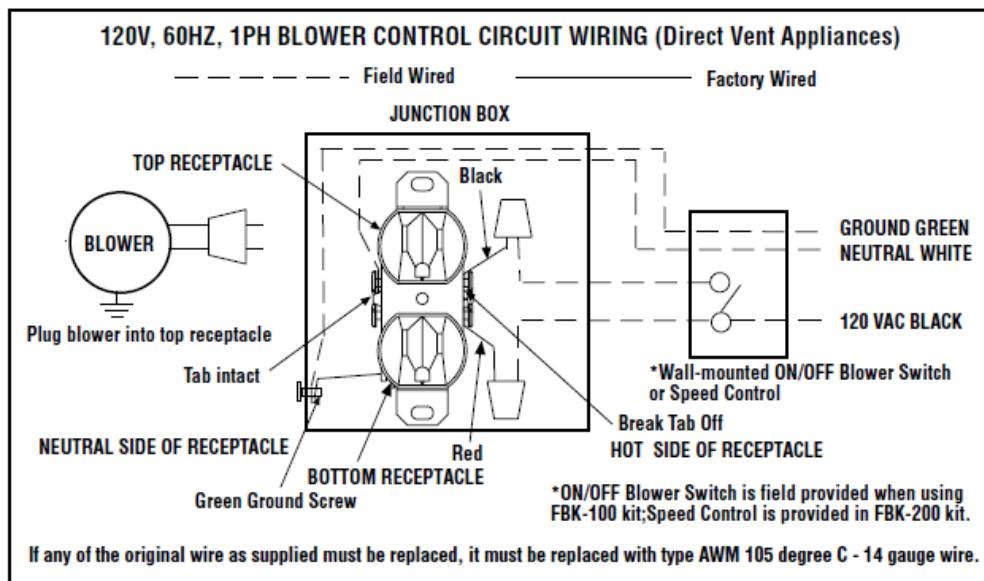

Figure 7
Step 8. Route a 3-wire, 120Vac power line to the ON/OFF switch (FBK-100 kits) or variable speed control (FBK-200 kits) as shown in **Figure 7**. Then route the wires to the unit's junction box. Remove the receptacle by removing the two securing screws. Connect the supply wires to the receptacle as shown in **Figure 7**, ensuring that the polarity (as determined by the colors of the wires) are exactly as shown. Reinstall the receptacle.